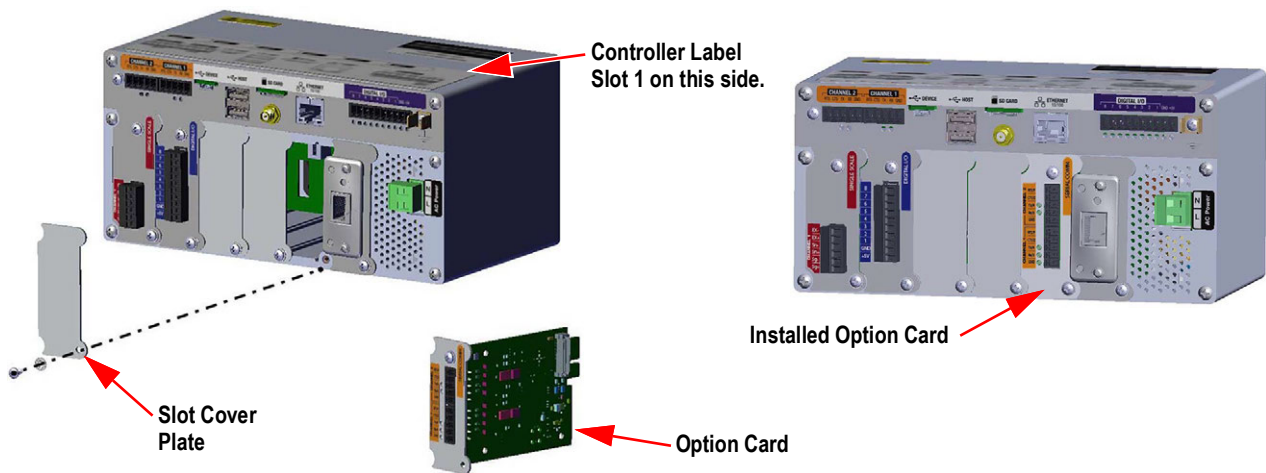

Figure 2-24. Option Card Installation
**NOTE:** Figure 2-24 illustrates label location.